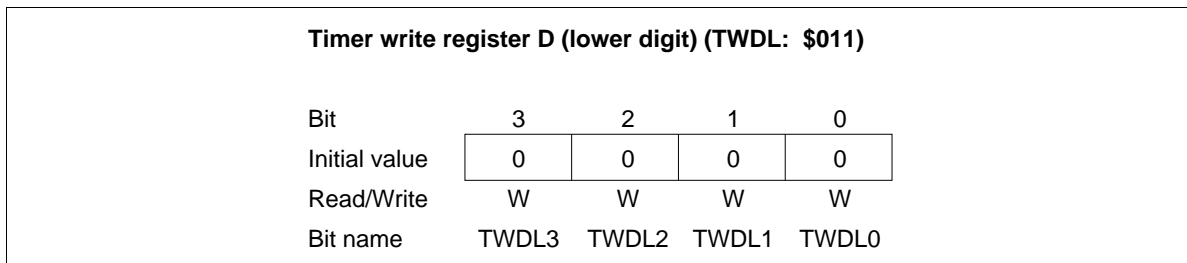

Figure 46 Timer Write Register D Lower Digit (TWDL)
- Timer write register D (TWDL: \$011, TWDU: \$012): Write-only register consisting of a lower digit (TWDL) and an upper digit (TWDU) as shown in figures 46 and 47. The operation of timer write register D is basically the same as that of timer write register C (TWCL: \$00E, TWCU: \$00F).